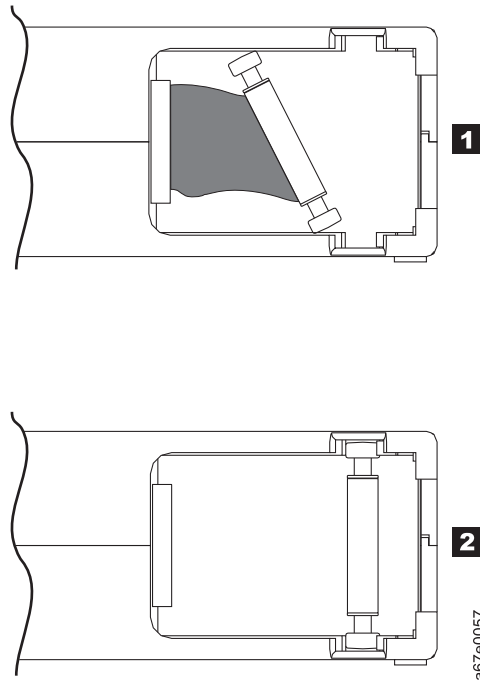

Figure 6-8. Leader pin in the incorrect and correct positions. The cartridge door is open and the leader pin is visible inside the cartridge.
- Check that the leader pin is properly seated (see **2** in Figure 6-8 on page 6-13).
- Do not drop the cartridge. If the cartridge drops, slide the cartridge door back and ensure that the leader pin is properly seated in the pin-retaining spring clips. See **2** in Figure 6-8 on page 6-13. If the leader pin becomes dislodged, go to “Repositioning or reattaching a leader pin” on page 6-12.
Improper placement of leader pin. See Figure 6-8 on page 6-13.
A leader pin that is improperly seated inside a cartridge interferes with the operation of the drive. Figure 6-8 on page 6-13 shows a leader pin in the incorrect **1** and correct **2** positions.